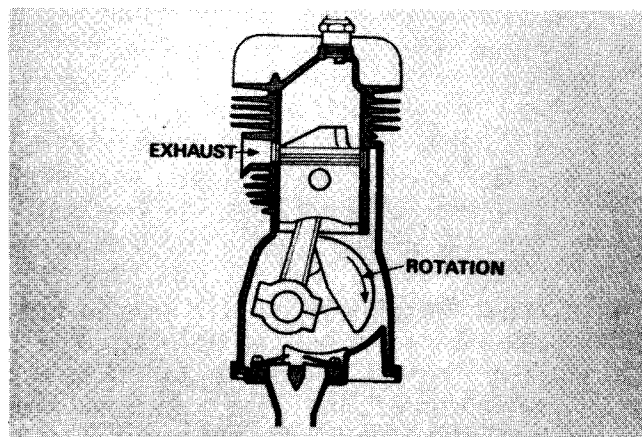

Figure 77. Piston and Rod Installation.
- a. Insert the assembled piston and rod into the cylinder from the top. The ring compressor shown in Section V – Service Data must be used to compress the rings for insertion. The piston must be positioned with the exhaust side on the same side as the exhaust ports of the cylinder. (See Figure 77.) Position the two ring end gaps on opposite sides of the piston, taking care not to line them up with the intake or exhaust ports.